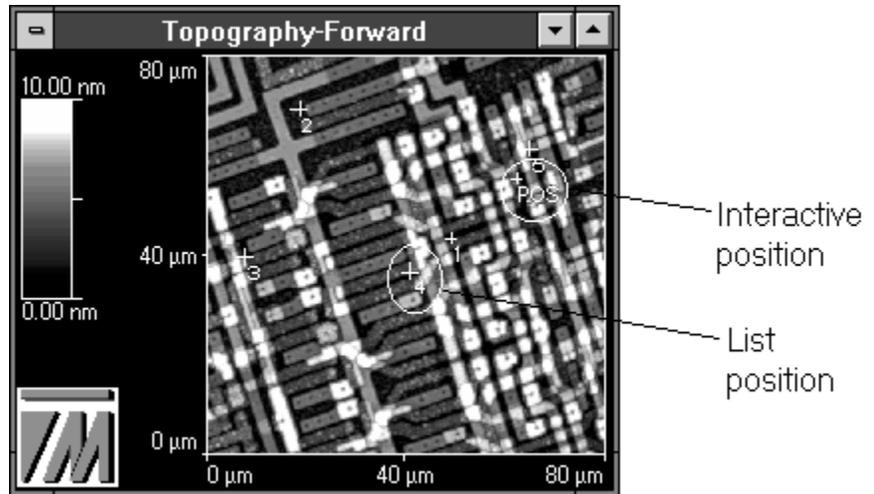
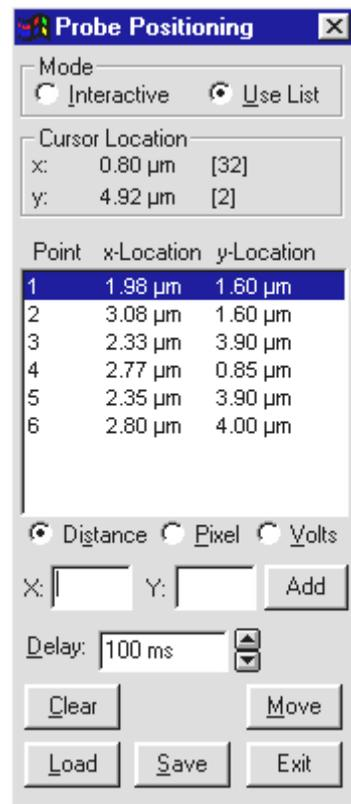

Figure 2-50. Interactive and Use List scanner positions.
Figure 2-51. Use List locations table.
3. Click the crosshair on the coordinates where you want the probe to be positioned, as shown in Figure 2-50.
Each point will be marked on the scan window with an incremental number and the corresponding coordinates will appear in the table in the dialog box. See Figure 2-50 and Figure 2-51.